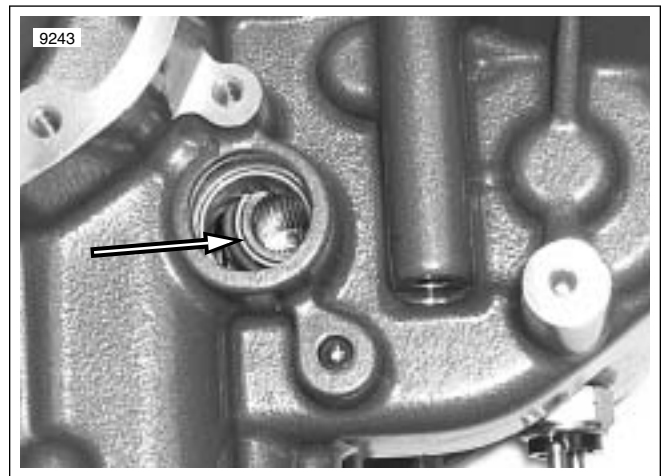

Figure 3-190. Shift Actuator
6. See Figure 3-190. The shift actuator is spring loaded and will move away from alignment with the case hole when the shift shaft is removed.